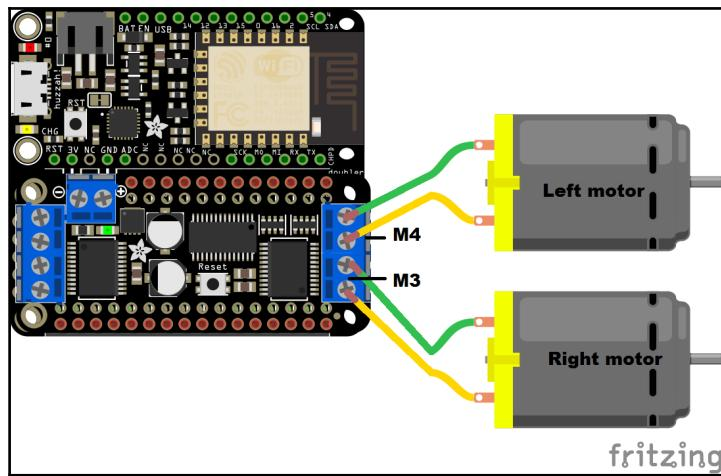

Figure 6.22: Wiring the gear motors with the DC Motor FeatherWing
6. Connect the wires from the gear motors with the DC Motor FeartherWing. Connect the left motor with the M4 terminal block and the right motor with the M3 terminal block (*Figure 6.22*):